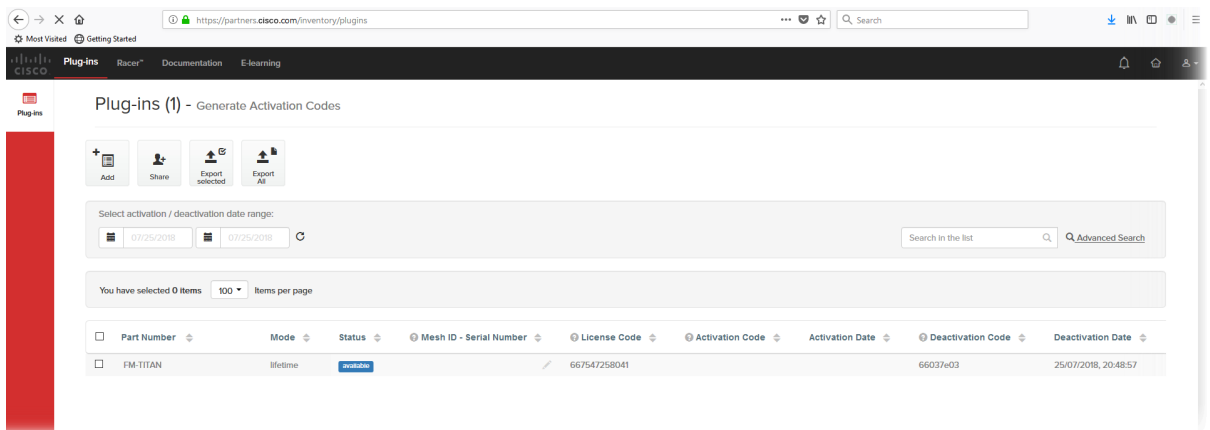

Figure 71. Partner Portal (Plug-ins web page)
- The Plug-ins web page will be shown (Figure 71 \(page 150\)).